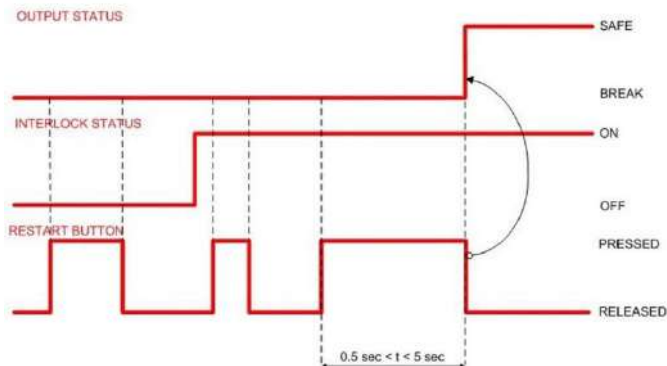

Figure 3 - Manual Restart timing
- **Manual Restart**, After activation, ESPE resets to Normal Operation only once the **RESTART** function has been activated (see Figure 3 on page 36) and provided that the object has been removed from the controlled area.